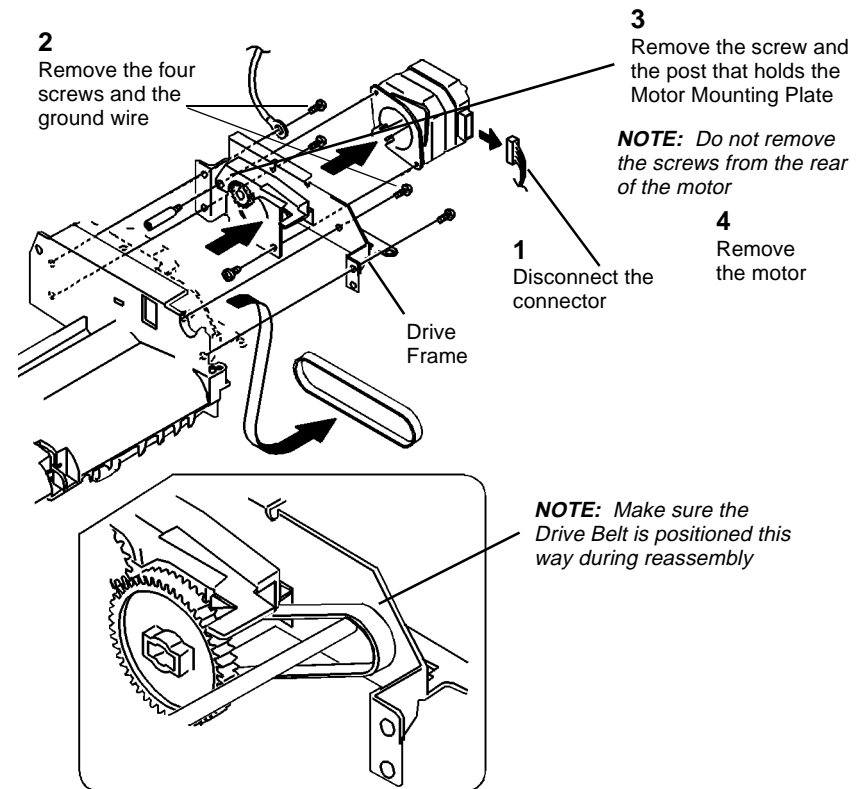

Figure 5 Removing the SDF Drive Motor
5. (Figure 5): Remove the SDF Drive Motor.